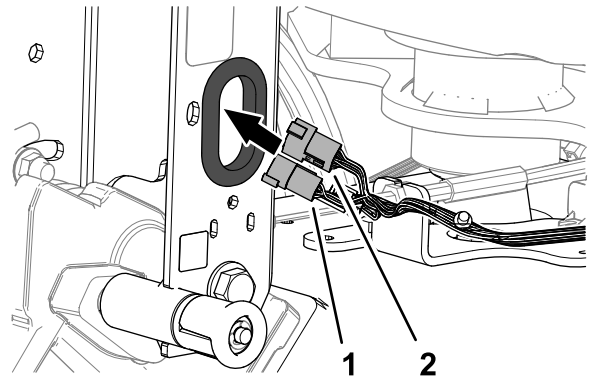

Figure 8
1. Route the 6-pin connector and the 12-pin connector of the machine wire harness through the grommet in the handle-bar channel (Figure 8).